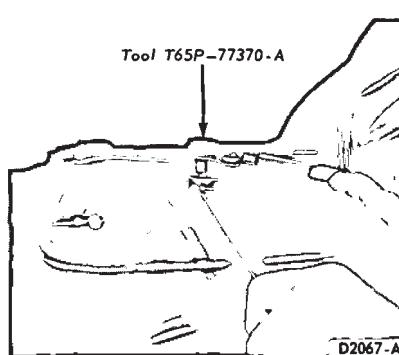
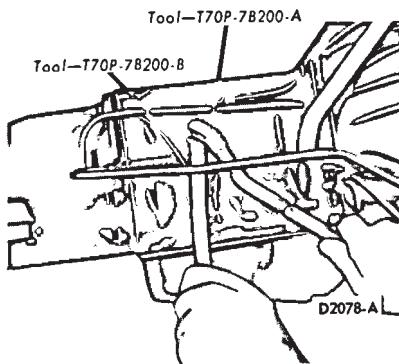

FIG. 15—Adjusting Rear Band—Ford, Meteor, Fairlane and Montego
FIG. 16—Adjusting Rear Band—Mustang-Cougar
2. Loosen the reverse band adjusting screw lock nut. On Mustang and Cougar, use the tool shown in Figure 16 to loosen the nut. Using the torque wrench shown in Figure 15 or 16, tighten the adjusting screw until the tool handle clicks. The tool is a preset torque wrench which clicks and breaks when the torque on the adjusting screw reaches 10 ft-lbs.